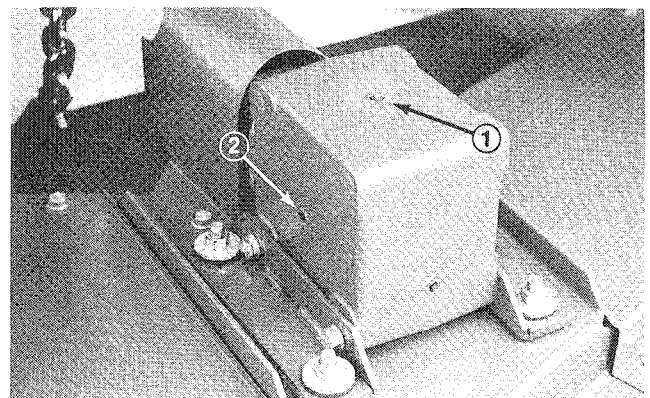

Figure 13
2. Remove check plug from side of gear box (Fig. 13) and make sure lubricant is up to bottom of hole. If level of lubricant is low, remove filler plug on top of gear case and add enough lubricant to bring it up to bottom of hole in side.